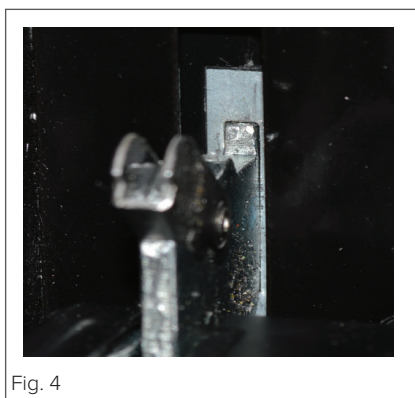

Fig. 4
- Next, ensure the notch on the underside of the hinge sits on the lip of the hinge slot. Open the door fully. Each hinge should be seated in the same way as the hinge in fig. 4. If it is not, follow the steps for removing the door and try replacing it again.